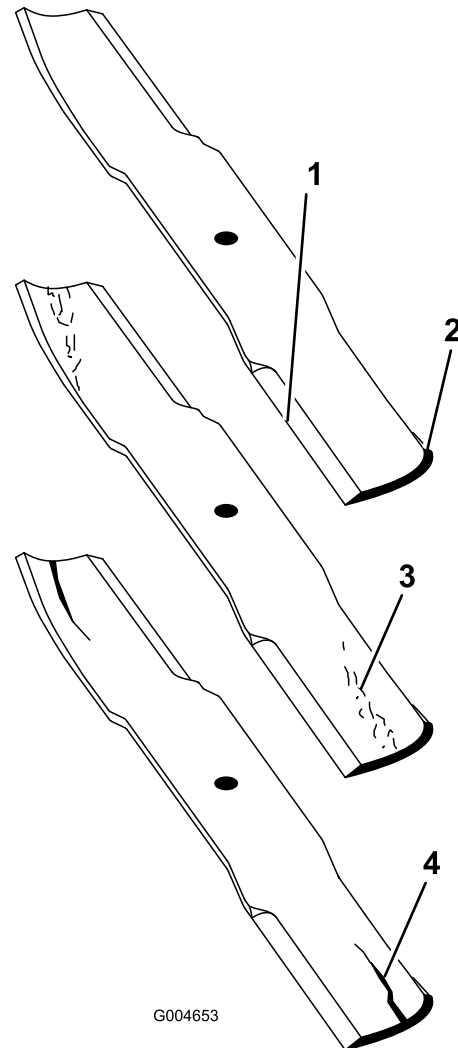

Figure 113
2. Examine the cutting ends of the blade carefully, especially where the flat and curved parts of the blade meet (Figure 113).
Note: Because sand and abrasive material can wear away the metal that connects the flat and curved parts of the blade, check the blade before using the mower. If you notice wear (Figure 113), replace the blade.